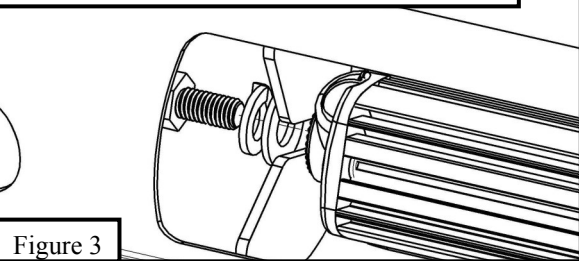

Figure 3
4. **For part number 32-1605L:** Refer to **Page 3** for wiring instructions. Loosen M8 hardware to adjust the LED light in bull bar or to remove it in order to replace it. See **Figure 3** for location of M8 hardware.